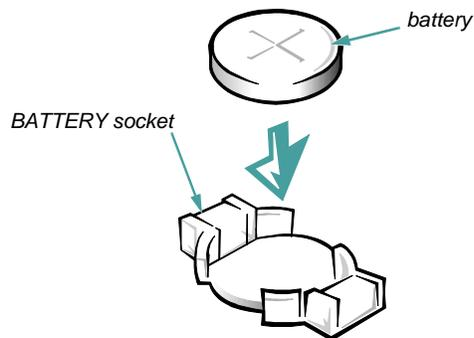

Figure 7-13. System Battery and Battery Socket
The 3-V lithium backup battery (see Figure 7-13), mounted in the BATTERY socket on the system board (Figure 7-1), maintains system configuration, date, and time information in a special section of memory when the system is turned off and disconnected from alternating current (AC) power.